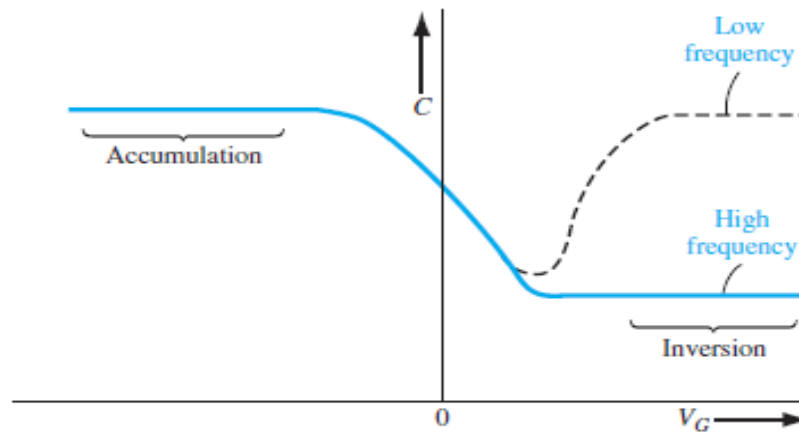

Figure 10.29 | Low-frequency and high-frequency capacitance versus gate voltage of a MOS capacitor with a p-type substrate.
The low frequency and high frequency C-V characteristics curves of a MOS capacitor are shown in fig 10.29
- The high-frequency and low-frequency limits of the C-V characteristics are shown in Figure 10.29.